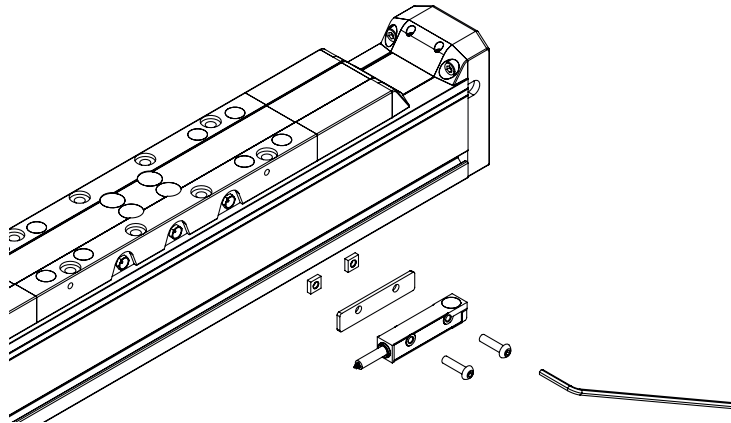

Fig. 6.24 **Mounting the limit switch: HM040S, HT100S**
- ▶ Attach the limit switch with two bolts (in the case of the axis sizes HM040S/HT100S, the spacer plate must also be installed between the limit switch and axis, see Fig. 6.24). First leave the two bolts untightened.